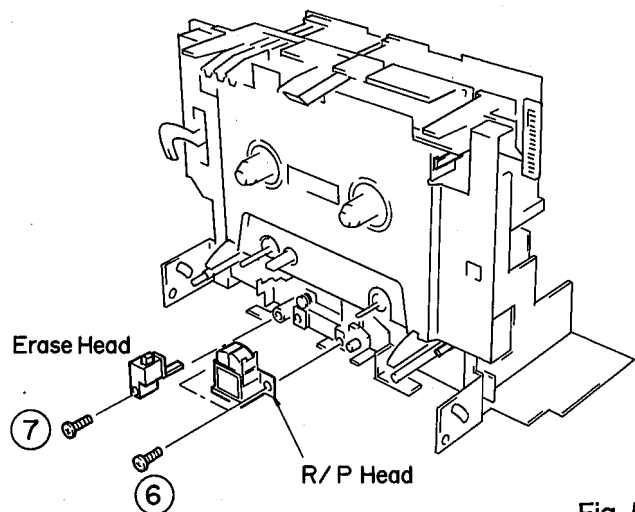

Fig. 5
- a. Remove the recording/playback head by removing the 2 screws (6) in fig. 5.
- b. Remove the erase head by removing the screw (7) in fig. 5.